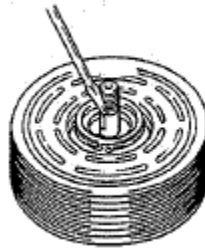

Figure 12-08
- (5) Reinstall rotor bearing snap ring, if it has been removed, with internal snap ring pliers. (Ref. figure 12-08)